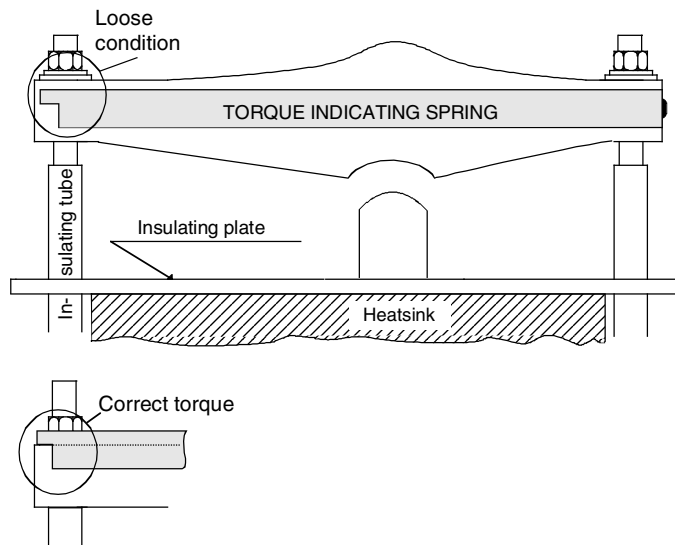

Figure 5-3 Aluminium spring with welded indicating spring
4. Loosen the mounting clamp (see *figure 5-3*) at the top of the thyristor stack.
8. Tighten each nut in turn, half a turn at a time with the help of a ring spanner until the indicating spring clicks into position “correct torque” (see *figure 5-3*). Do not tighten the screws any further.